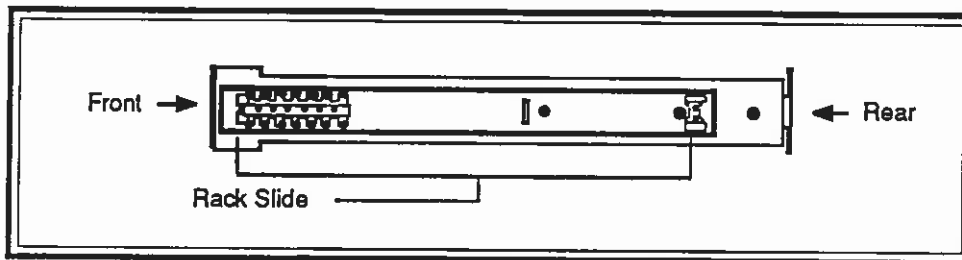

Figure 2-2b. Rack Slide Assembly (faces recorder)
- *the inner rack slide (figure 2-2b) faces the recorder.*